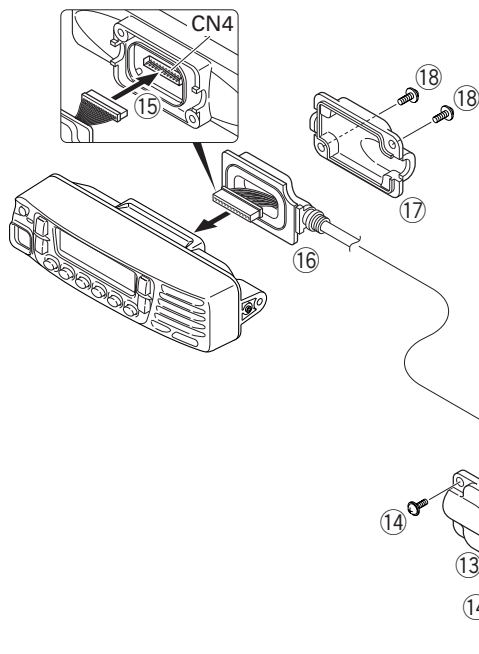

Fig. 4-5
10. Install the molded cover ( ⑬ ) over the connector on the main panel and secure it with two screws ( ⑭ ).
11. Insert the other 14-pin connector of the cable into the connector (CN4) of the interface unit (B/2) of the rear panel. ( ⑮ )
12. Secure the cable bush on the rear panel and fit the waterproof packing (orange) ( ⑯ ) securely over top.
13. Install the molded cover ( ⑰ ) over the connector on the rear panel and secure it with two screws ( ⑱ ).
**Note :** A cable can be connected from the left side as shown in the Figure 4-5 or from right side. However, the 14-pin connector must be connected to correct direction.